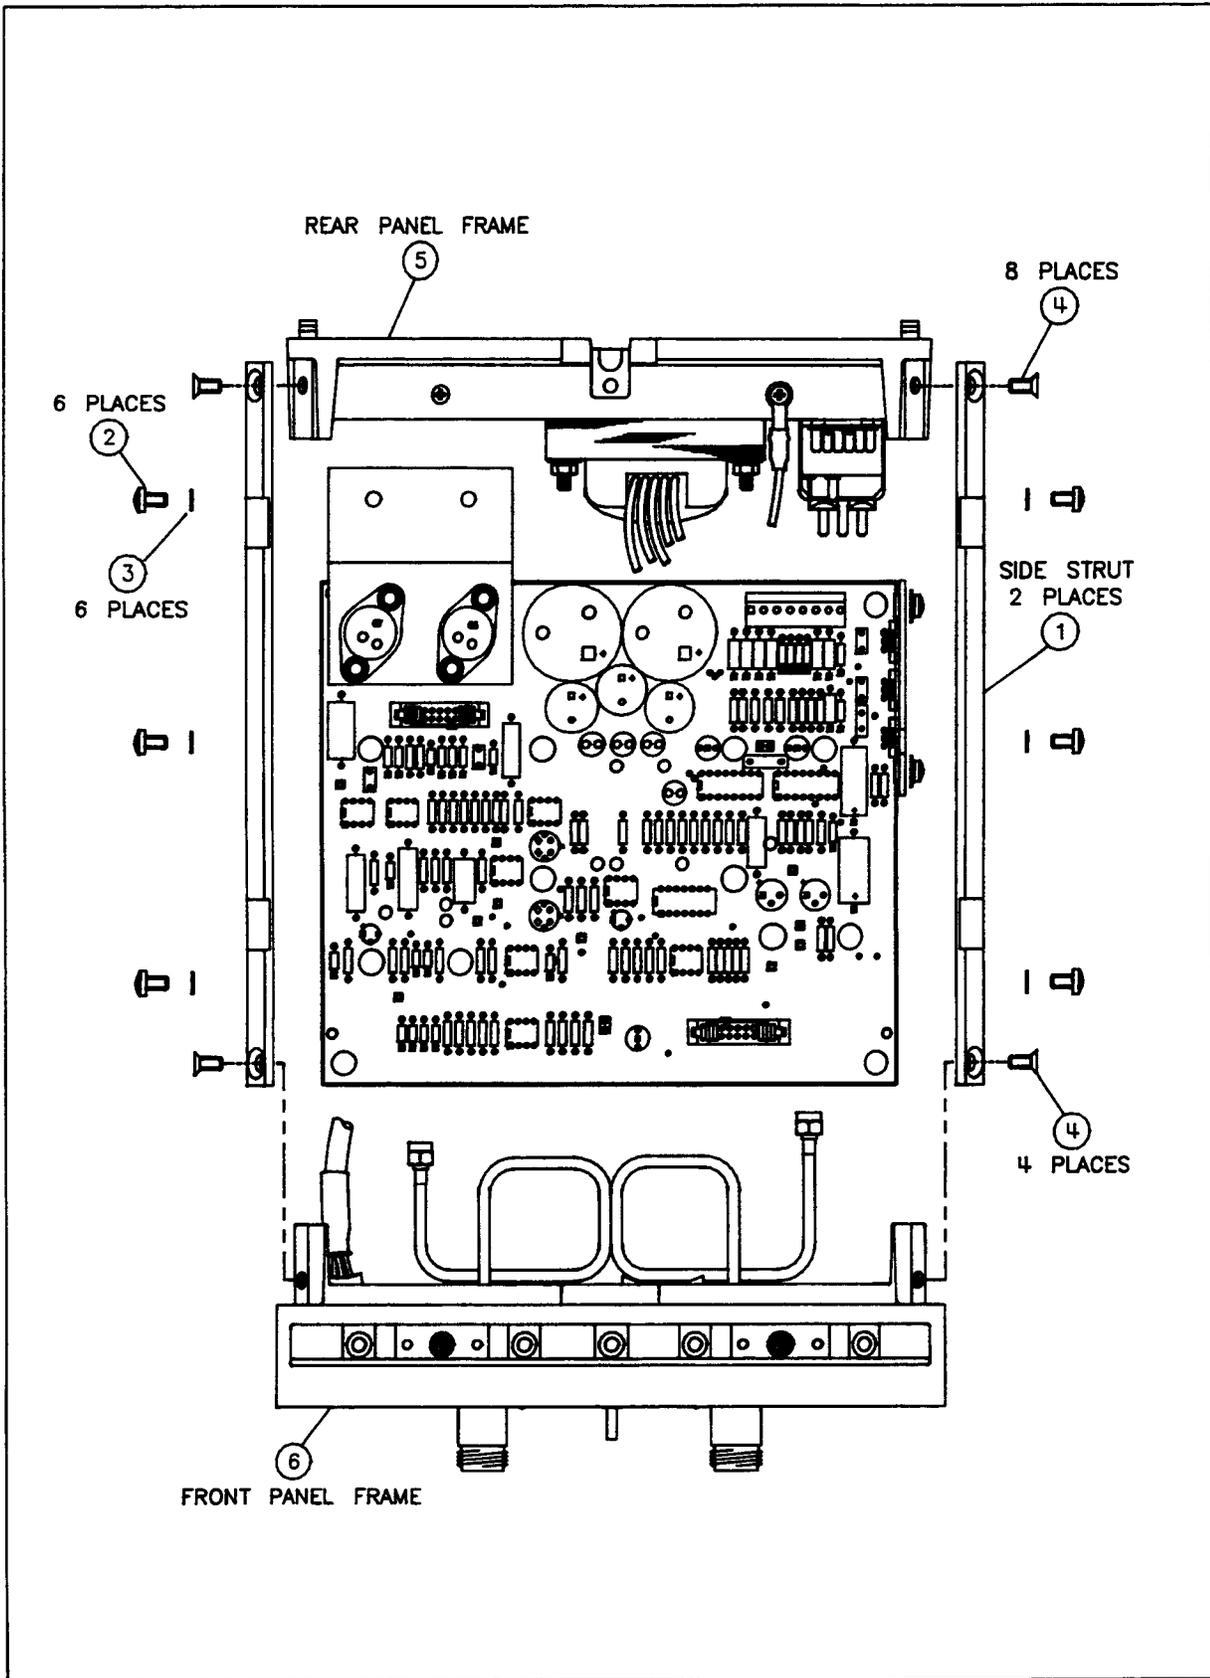

Figure 5-7. Chassis Frame Components and Attaching Hardware
2. Refer to Figure 5-7. Remove the four (item 4) screws holding on the front panel. Push each corner of the front frame until it comes off. Reverse this procedure to attach the new frame.
2. Refer to Figure 5-7. Remove the four (item 4) screws holding on the rear panel frame. Push each corner of the rear frame until it comes off. Reverse this procedure to attach the new frame.
1. Remove top covers, bottom covers, and outer side panels. Remove all screws holding on the desired side panel. Each side panel has seven screws holding it in place —one in each corner (item 4) and three near the top edge (item 2). Refer to Figure 5-7.